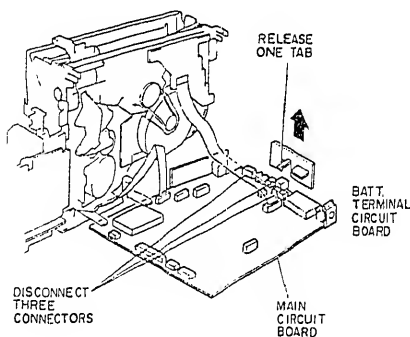
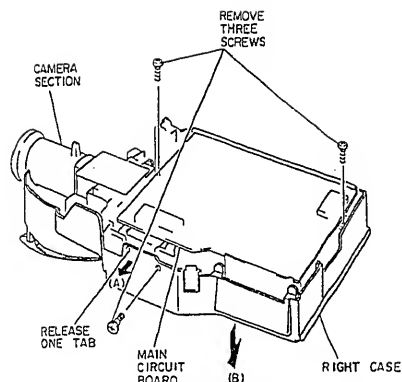

Fig. 2-6
Fig. 2-7
2. Release one (1) tab and remove the batt. terminal circuit board in the direction of the arrow. (See Fig. 2-6)
3. Disconnect three (3) connectors (CN407, CN901, CN906) on the main circuit board.
4. Remove three (3) screws holding the right case. (See Fig. 2-7)
5. Pull the right case in the direction of arrow (A), and while releasing one (1) tab, remove the right case in the direction of arrow (B).